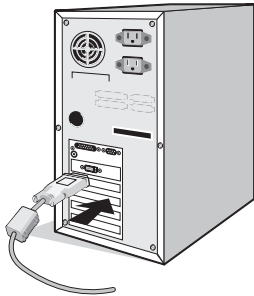

Figure A.1
2. **For a PC with DVI digital output:** Connect the DVI signal cable to the connector of the display controller in your system (**Figure A.1**). Tighten all screws.